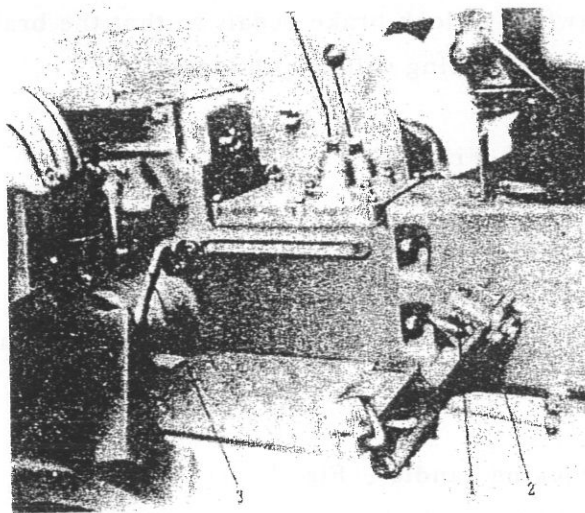

Fig. 2—5
1) Preheating/starting switch 16 (Fig. 2—1)
2)Triple—throw switch 5(Fig. 2—1)
3)Tail light switch 6(Fig. 2—1)
4)Hand throttle 15(Fig. 2—1)
5)Fuel cut—off rod 3(Fig. 2—1)
6)Foot throttle 21(Fig. 2—1)
7)Decompressing lever 4(Fig. 2—1)
8)Main and sub—shifting levers 18,2(Fig. 2—1)
The positions of main and sub-shifting levers are as shown in Fig. 2—2. Shift the two levers into different positions respectively ,various forward and reverse speeds can be obtained. The neutral position is in the middle.
The Front drive and Creeper lever is installed on the Mid —connecting housing. Fig. 2—3 shows the positions of the Front lever. The positions of the Front drive and Creeper lever are shown in Fig. 2—4, put the lever in position " N" will cut—off the connection between the engine and transmission system, shift the lever to position " D" if the Creeper or front drive of the tractor is not to be used.
10) Clutch pedal 1(Fig. 2—1)
12) Ammeter 12(Fig. 2—1)
13) **Water temperature gauge 8 (Fig. 2—1)**
14) **Oil temperature gauge (or Air pressure gauge) 13 (Fig. 2—1)**
15) **Oil pressure gauge 9 (Fig. 2—1)**
16) **Brake lock plate 2 (Fig. 2—5)**
17) **Brake lock pawl 1 (Fig. 2—5)**
18) **Differential lock pedal 3 (Fig. 2—5)**
19) **PTO gear—shifting lever 2 (Fig. 2—6)**
20) **Hitch mechanism locking handle 1 (Fig. 2—6)**